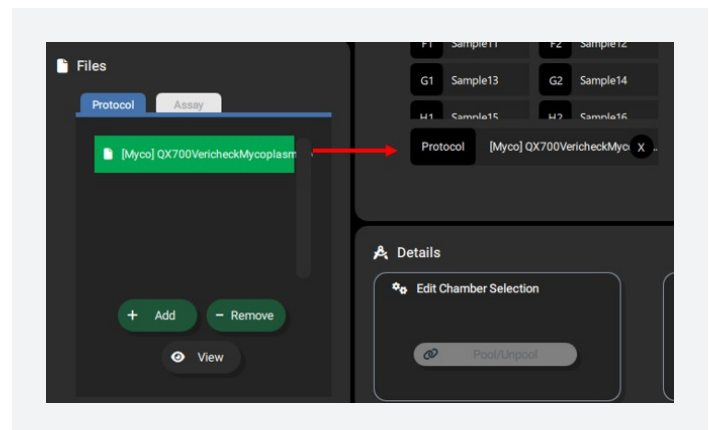

Fig. 2. Applying the protocol file. Drag the desired protocol from the Files section to the protocol box under each cartridge (red arrow).
5. Apply the protocol file by dragging it to each cartridge (Figure 2).